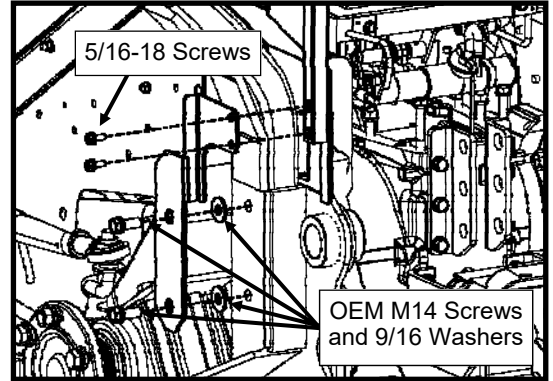

Figure 8.1: Left Lower Rear Panel Bracket
8.2 Fasten the left lower rear panel bracket to the vehicle using the OEM bolt and sandwich a washer between the bracket and the ROPS (see Figure 8.1, wheel and backhoe hidden for clarity). Leave hardware loose.